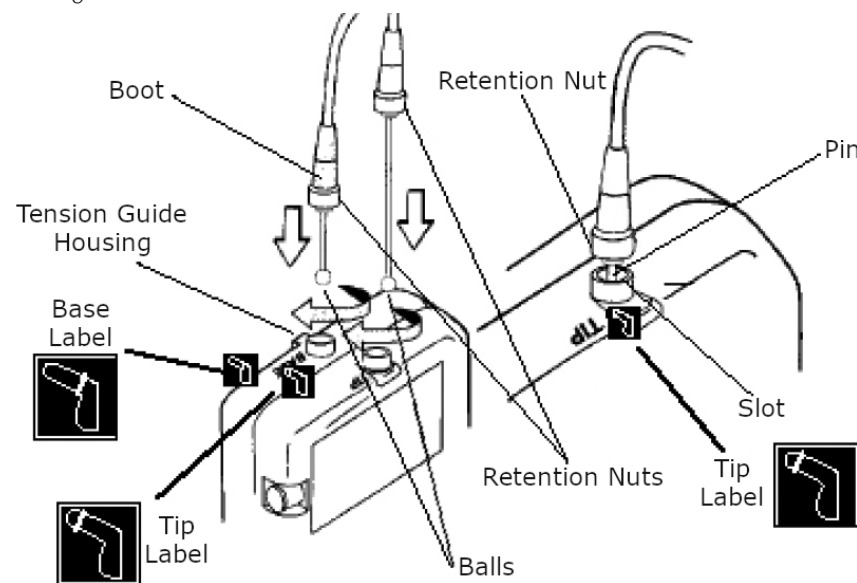

Fig. 4-4 Installing the Tension Guides
8. Tighten the plastic retention nut on the Tension Guide until it contacts the Tension Guide housing. (see Figure 4-4)